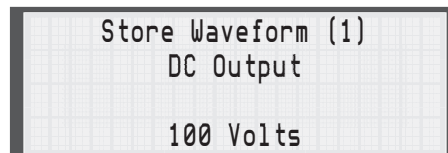

Fig. 5.28
2. Use the Arrow keys to scroll to a storage location you want to overwrite (**Fig. 5.28**).